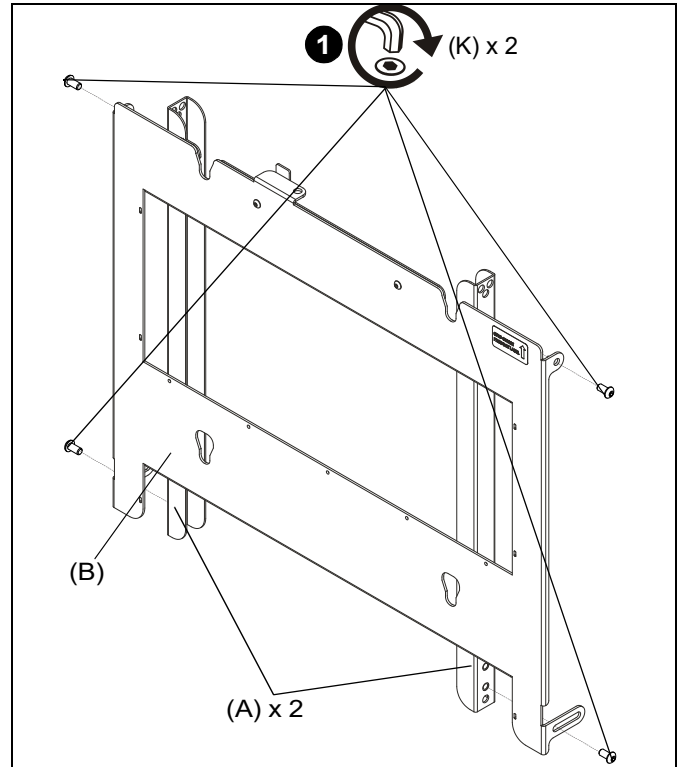

**Figure 4**
1. Drill 5/32" diameter x 2" deep hole at each marked cable anchor support location (See Figure 4). Use a plumb drop tool to make sure holes will be directly aligned with holes on ceiling. Remove debris from hole.
2. Fully thread eye lag (E) into each hole (See Figure 4).
3. Route end of cable (J) through eye lag (E) and then through cable loop. (See Figure 4)